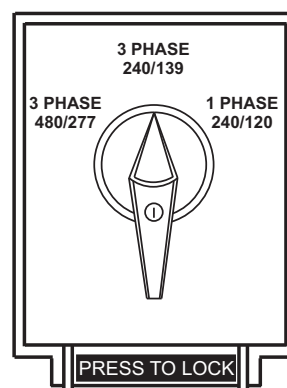
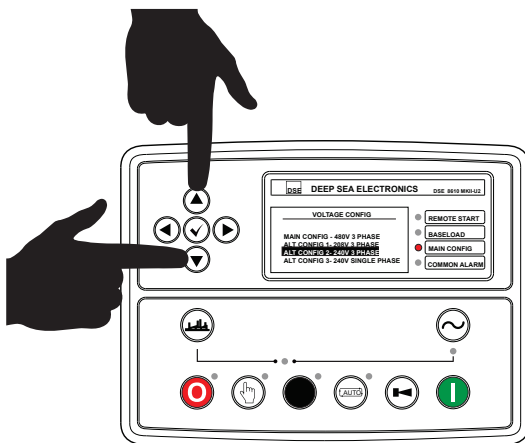

Figure 39. Voltage Selector Switch
Figure 43. Voltage Config Screen
6. Verify that the “**VOLTAGE CONFIG**” screen (Figure 43) is displayed.
7. Use the **UP/DOWN** arrows (Figure 43) to select the desired output voltage.
8. Verify that the selected voltage being displayed on the Voltage Config screen (Figure 43) is the same voltage indicated by the voltage selector switch (Figure 39).